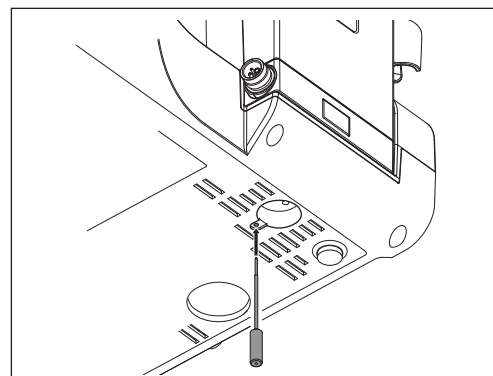

Fig. 42
- 1) Insert the included Unlocking Tool into the hole on the base of the Control Unit and push it in all the way. (Fig. 42)